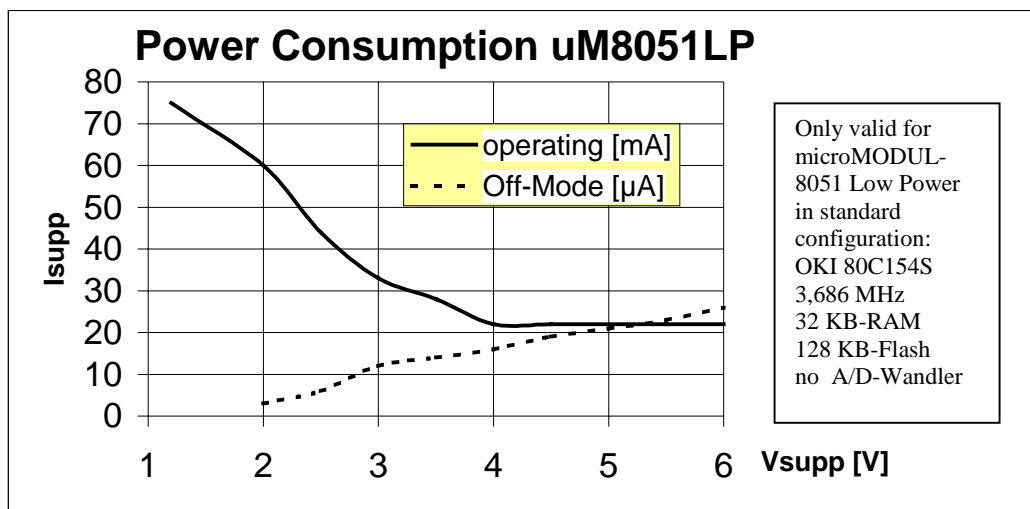

Figure 12: Power Consumption of the microMODUL-8051 Low Power
- Power consumption: refer to Figure 12